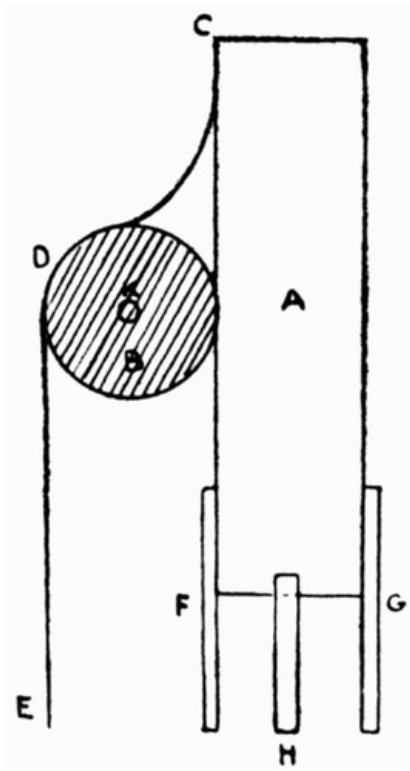

FIG. 125
**A Barrel Organ.** Figs. 125, 126, 127 show how a barrel organ can be made from a cork and match-box cover. A is a match-box cover, a cork; B, is made a perfect cylinder by means of sand-paper, and gummed to side of cover. It is kept in its place by a piece of paper, C D E, which is gummed to cover and also to the cork. Wheels F and G are gummed to the sides or made to revolve on axles as described in Chapter II. The handle K is made of a match stick and bent piece of cardboard. Support H and handles are made of cardboard.